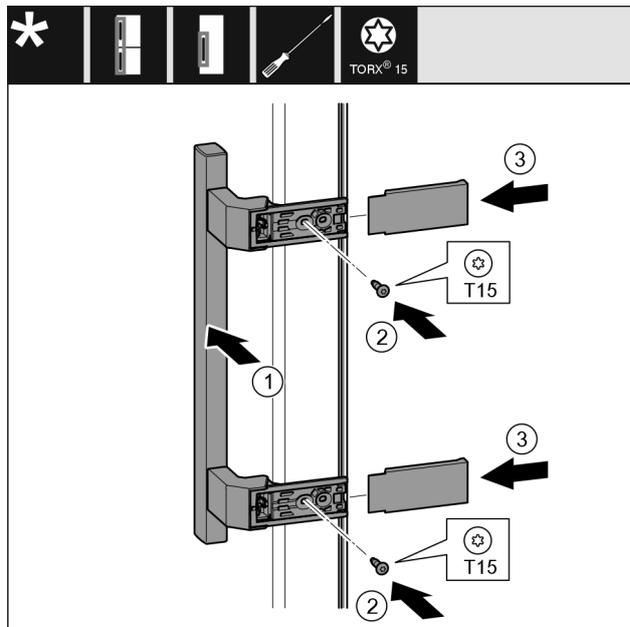

Fig. 43
- ▶ Place the handle Fig. 43 (1) on the opposite side.
- ▶ Tighten screws Fig. 43 (2) with screwdriver.
- ▶ Place the covers Fig. 43 (3) on the side and push them on.